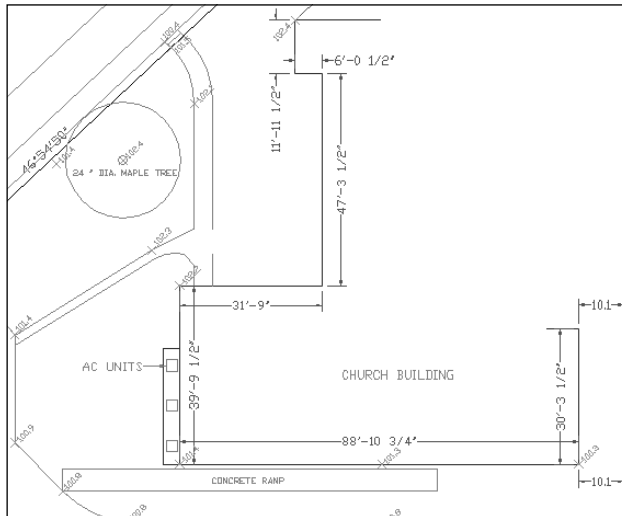

Figure 10-28: The edited site plan.
7. Start the JOIN command. At the Select source object: prompt, select the line at ⑧. At the Select lines to join to source: prompt, select the line at ⑨. Press Enter to end selection and join the lines into one.
8. Save your drawing. It should look like Figure 10-28.